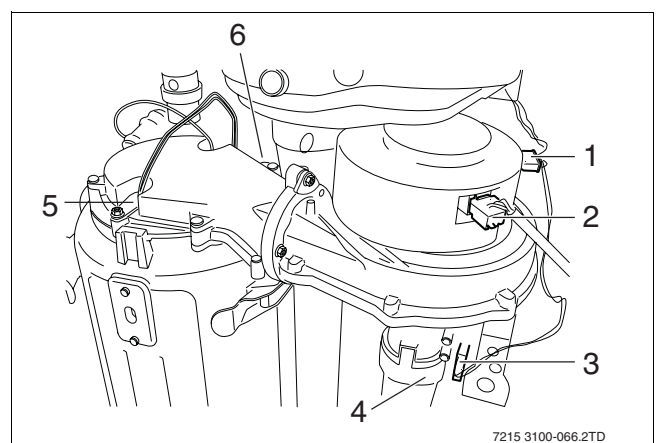

Fig. 67 Remove connectors of the gas air unit
- Remove the connectors (→ fig. 67, item 1, 2 and 3) from the gas air unit.
- Remove the air silencer from the gas air unit (→ fig. 67, item 4).
- Then remove the connectors of the glow ignitor (→ fig. 67, item 5) and the ionisation electrode (→ fig. 67, item 6).